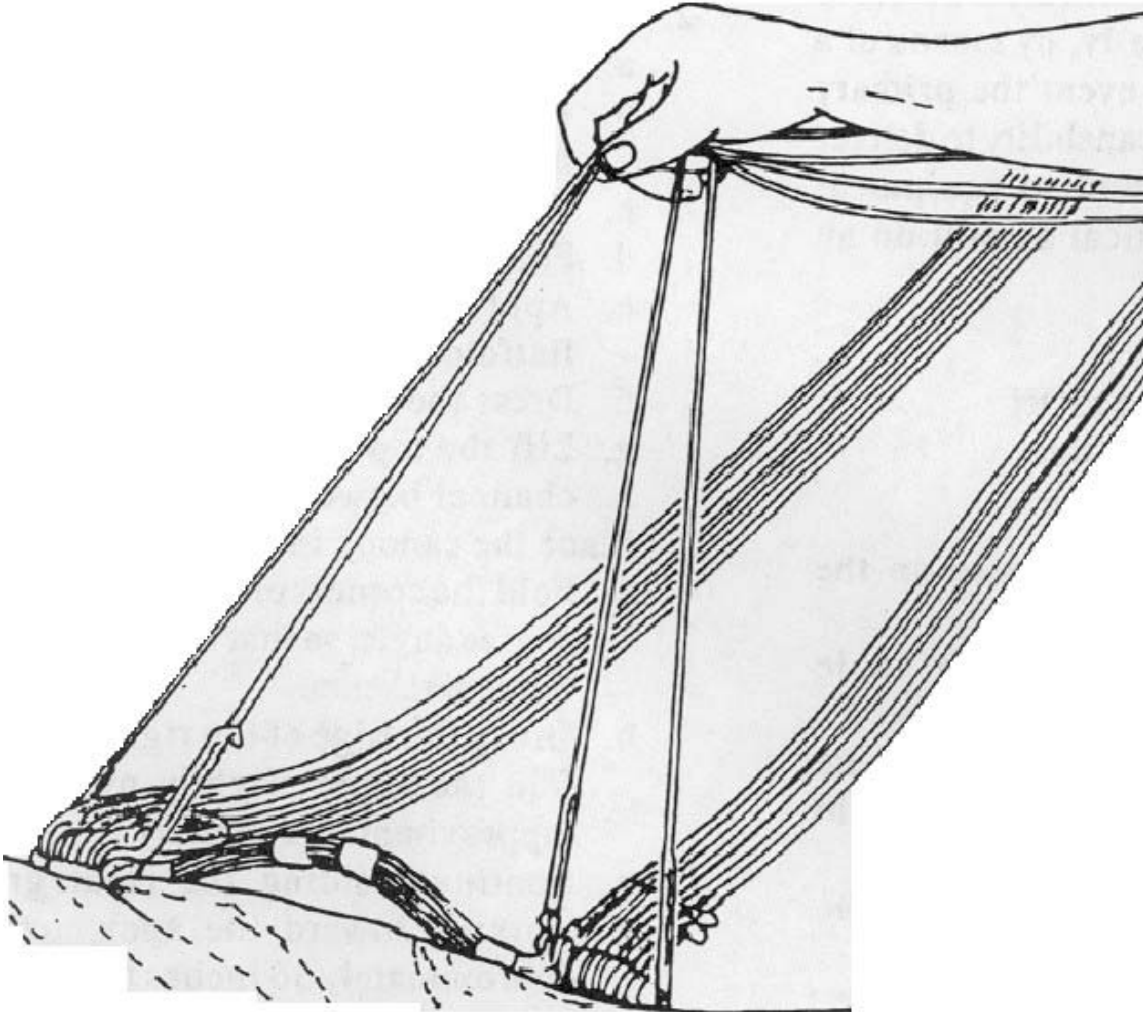

Figure 3-9
- g. Ensure lines 1 and 24 are on the inside of the connector snaps and lines 12 and 13 are on the outside of the connector snaps. (See Figure 3-9)